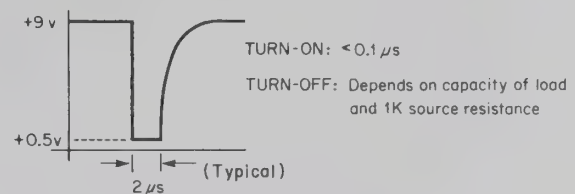

Figure 2-9. Output Pulse (Idealized)
**2-28.** When the pulse train output is unloaded, the individual pulses are approximately as shown in Figure 2-9. The output circuit is designed so that loading reduces the pulse baseline voltage, and consequently reduces pulse amplitude. For example, connecting a 2K load resistor across the output reduces pulse amplitude from about 8.5 volts to about 5.5 volts. External loads with smaller resistance value reduce baseline voltage and pulse amplitude even more. The bonus feature of this design is that the output circuit is not damaged by overload, not even by a short circuit.